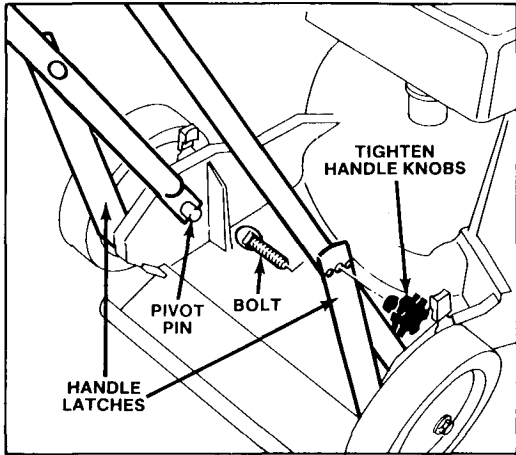

Figure 1
1. **LOWER HANDLE** (Fig. 1) — Push ends of lower handle together and install on pivot pins. Move handle and latches backward until mounting holes align. Insert bolts through hole in handle latches and install handle knobs (Fig. 1). Tighten securely. Assure control cables are to the rear and inside of handle.